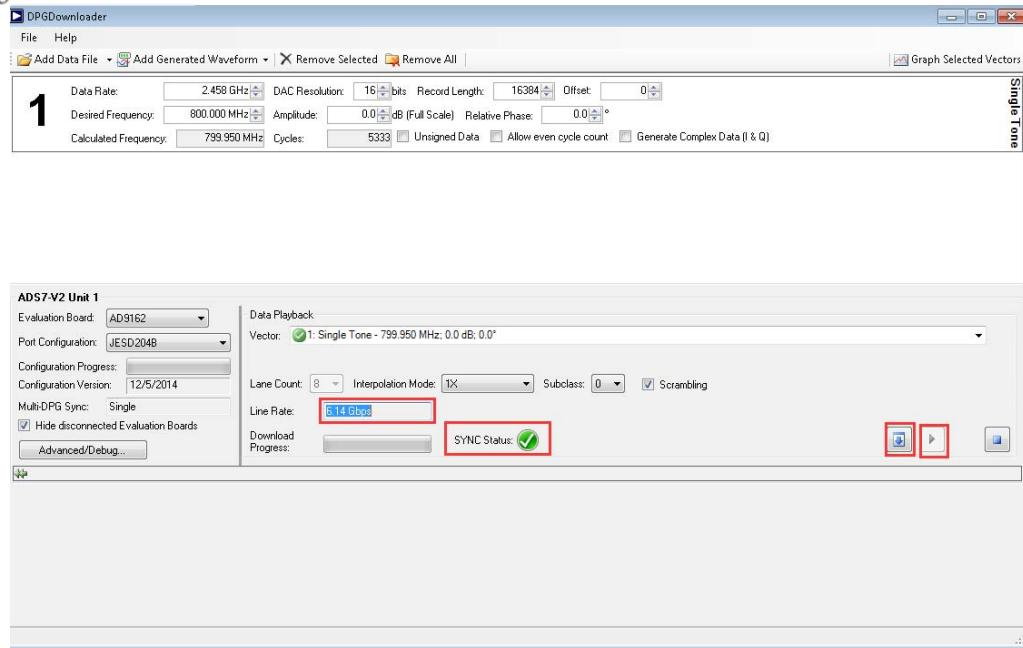

Figure 17. Download single tone and play it
6. The Lane Rate frequency from the AD9162 should be reported as 6.144 Gbps as shown in Figure 17. The “SYNC Status” should show as the green check mark.